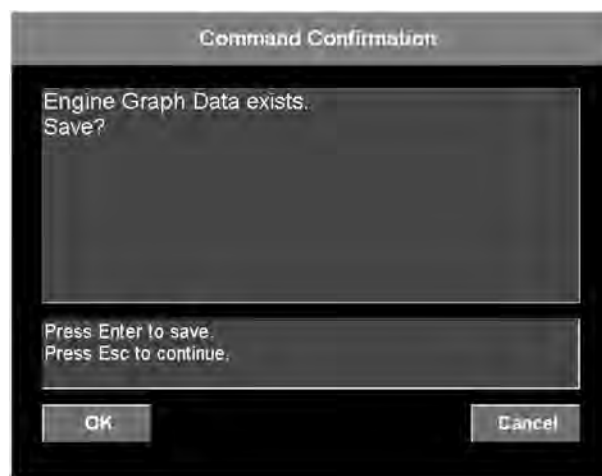

Fig. 57
8. The program displays a confirmation dialog asking whether you are sure you wish to delete previously saved signal and graph data (see Fig. 57). Click the **OK** button (or press the Enter key) to save the new data (overwriting the old data). The graph window will then close.